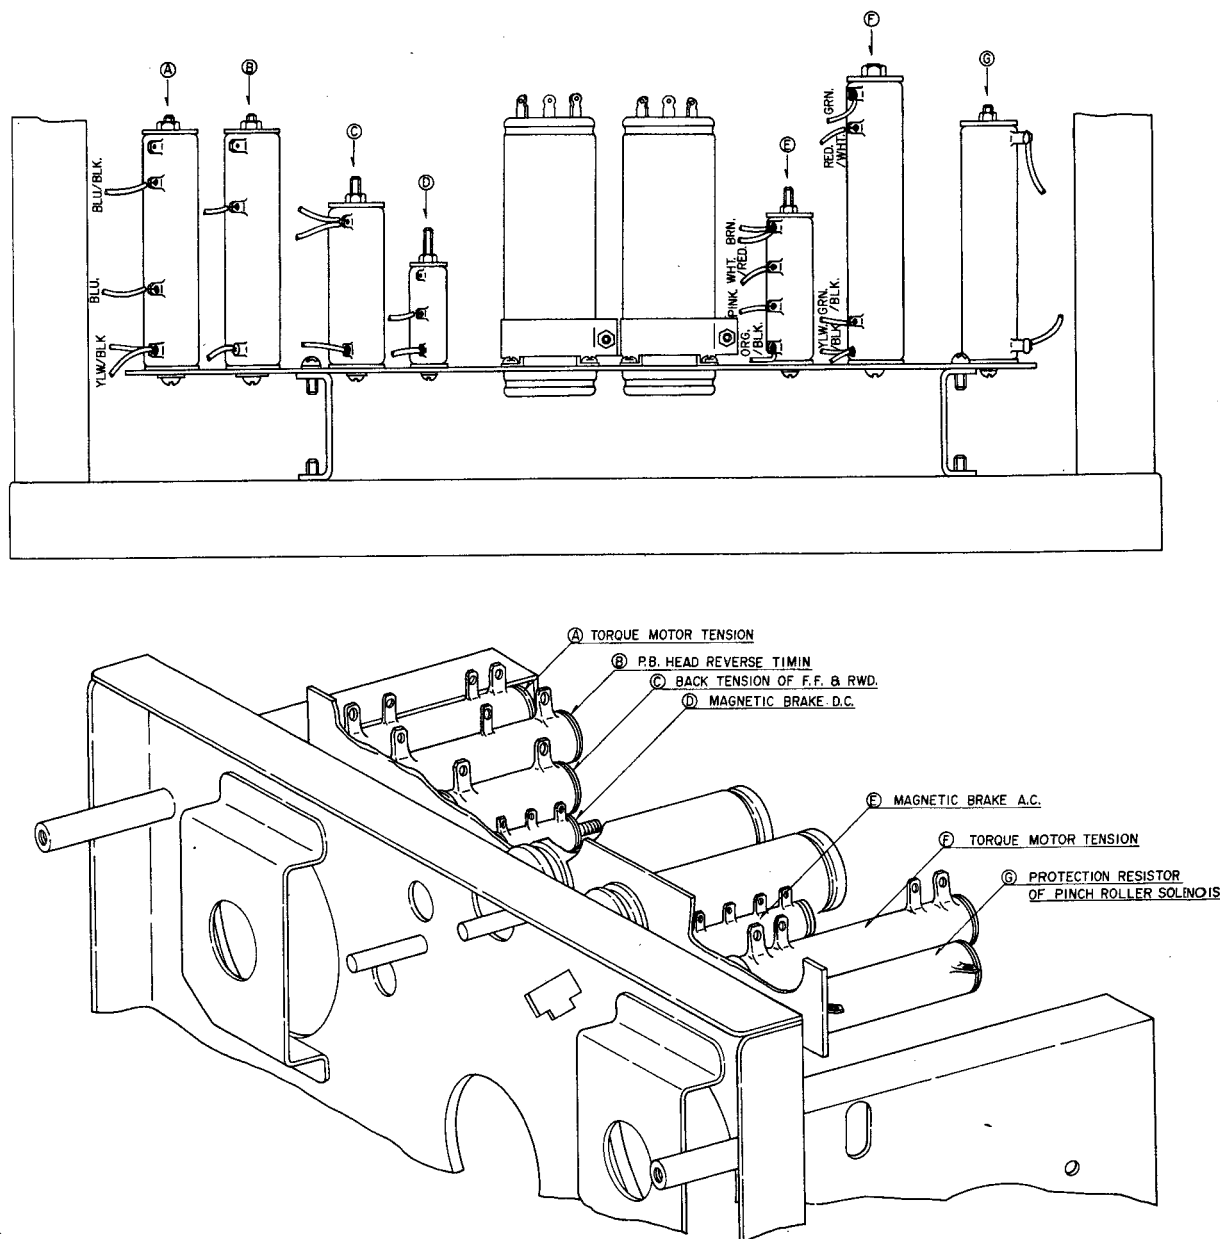

Fig. 5
- 2) Take-Up tension for "Normal Play" depends upon the torque of Motor B. Take-up tension is about 100 grams which is applied through the 120  $\Omega$  Resistor (A), as shown in Figure 5. At this tension setting, voltage applied to Motor B is approximately 41 V.
- 3) Back tension for "Normal Play" depends upon the torque of Motor A, as shown in Figure 6. Back tension is about 60 grams which is applied through 230  $\Omega$  Resistor (F), as shown in Figure 5. At this tension, voltage applied to Motor A is approximately 29 V.
- 4) Take-up tension for "Reverse Play" depends upon the torque of Motor A. Adjust Take-up tension to about 220 grams by adjusting the 120  $\Omega$  Resistor (A), as shown in Figure 5. At this tension, voltage applied to Motor A is approximately 62 V.
In such a case adjust 650  $\Omega$  Resistor (B), as shown in Figure 5, so that 38 Volts is applied between the terminals (white and gray wire) (Reverse Head Solenoid Coil).
1) Adjust 400  $\Omega$  Resistor (E) (in Figure 5) so that the terminals on each end of the Resistor are equidistant.
2) Center the Slider of the 1 K $\Omega$  Resistor (D), as shown in Figure 5. (D.C. Brake)
4) If the tape turns in the rewind direction, increase D.C. Brake voltage by adjusting the Slider (1) of the 1 K $\Omega$  Resistor (D) to decrease resistance, or adjust slider (1) toward terminal (3) of the 400  $\Omega$  Resistor (E), as shown in Figure 5. Also verify that Brake Band tension is accurately adjusted to 150 grams.
5) Set the Magnetic Brake Control Switch to 1 mil or 1/2 mil and check the following: FAST FORWARD  $\rightarrow$  STOP, REWIND  $\rightarrow$  STOP. If the tape loses its tension and becomes slack at STOP, move the Slider (2) of 400  $\Omega$  Resistor (E) toward Slider (1), as shown in Figure 5.
1) Adjust the slider of the 1.7 K $\Omega$  Resistor (C), shown in Figure 5, so that overall resistance is 1.3 K $\Omega$ . If Resistor (C) itself is 1.3 K $\Omega$ , no adjustment is required.